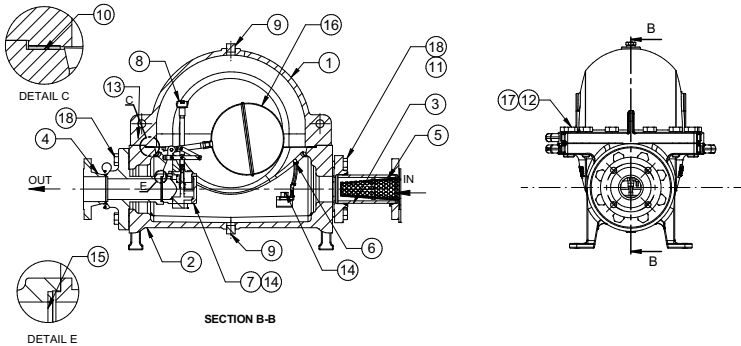

Figure1: Single Orifice Float trap (SOFT53-HC)
4. Product Working Principle : (Refer to Figure 1)